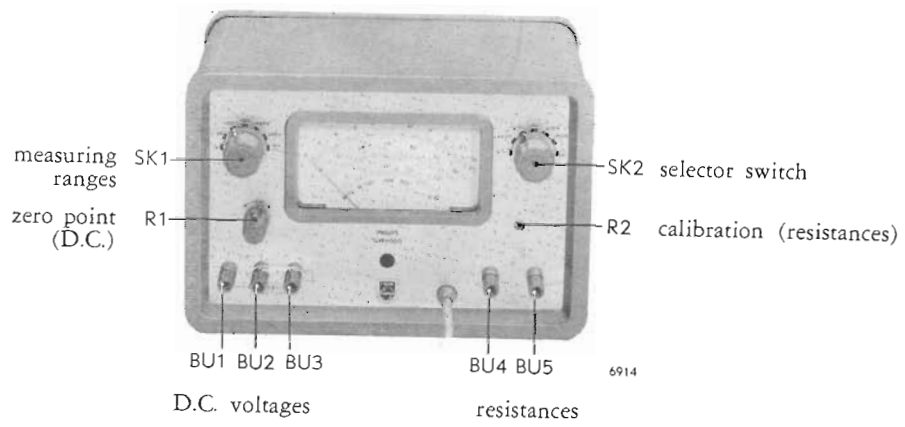

Fig. 1. Front view
1. Check whether the pointer indicates zero; if necessary, readjust by means of the black screw at the front of the instrument (mechanical zero adjustment, see Fig. 1).